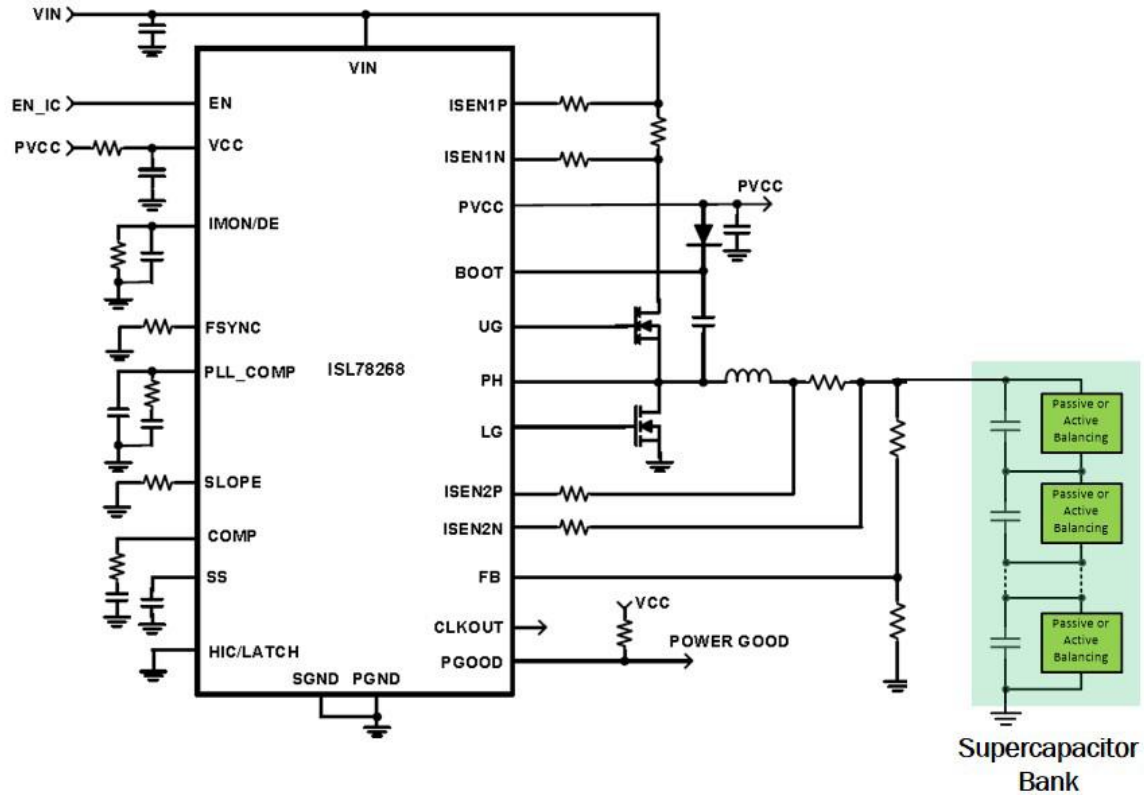

Figure 3. Simplified Schematic of a Sync Buck Regulator Achieving CICV SC Charging Control
Figure 3 shows the simplified schematic of Intersil's ISL78268 controlling a sync buck regulator that achieves CICV control. To charge a supercapacitor bank to 25V with CICV control, the following capabilities were considered when selecting the controller:
3. Accurate current sense inputs for the CI portion that operate over the supply voltages of the system. Referring to Figure 3, the controller is sensing the inductor's continuous current, which is the charging current. The controller's current sense amplifier must withstand the common mode voltage, which is 25V in this case.